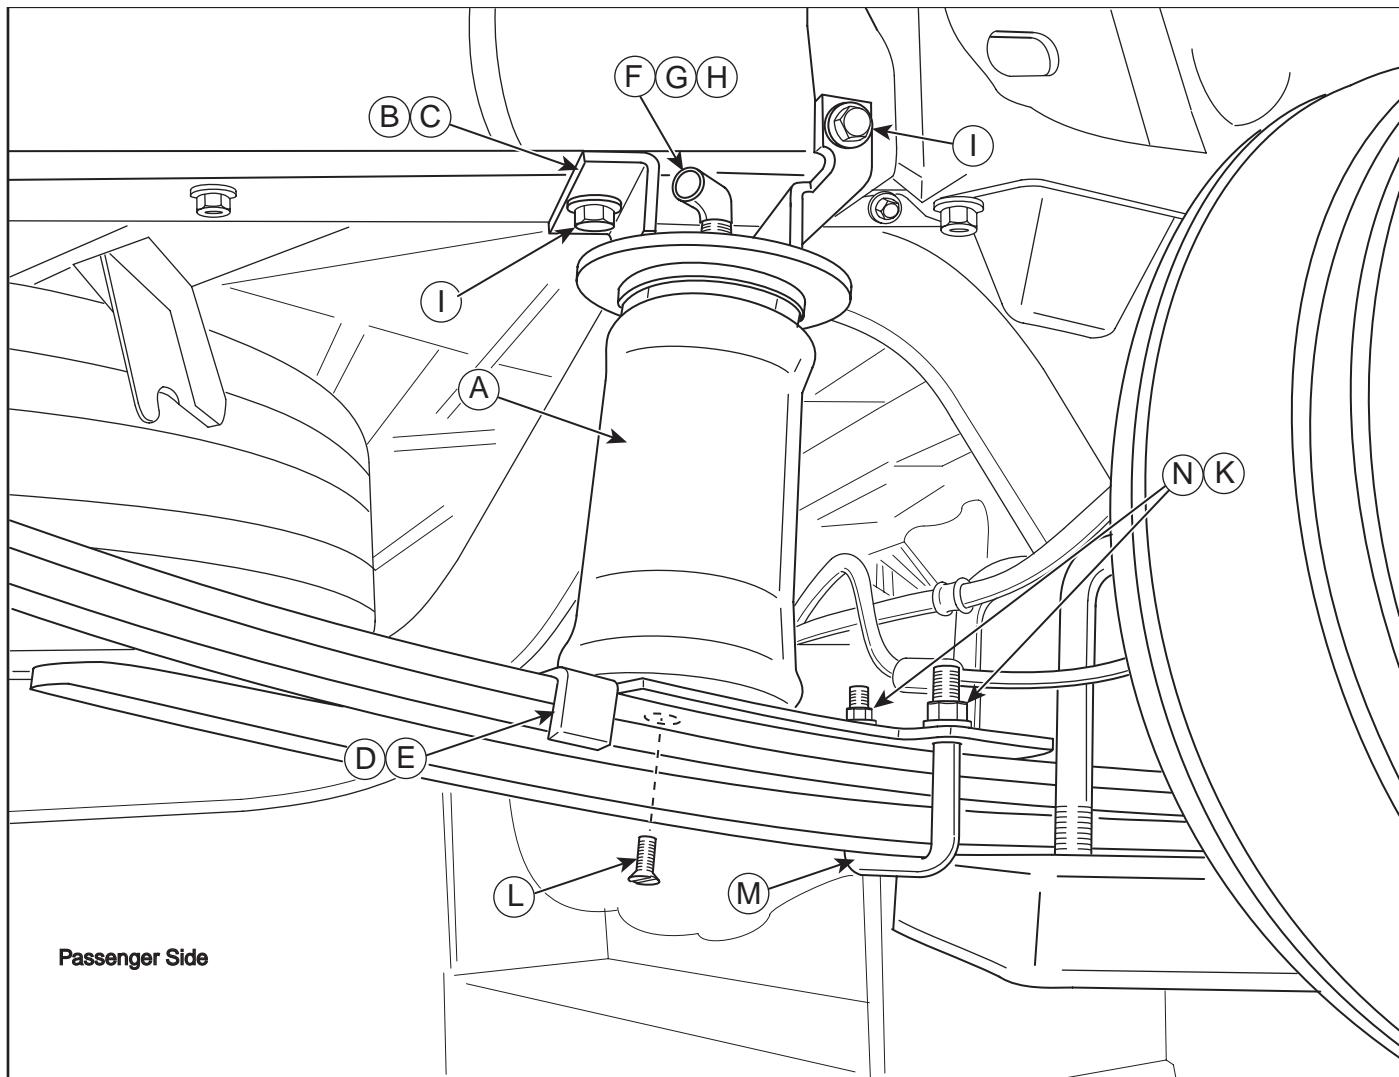

Figure 1
3. Set the brackets on the frame behind the axle as shown (Figure 1 & 2). Clamp the brackets to the frame with vise grips or welding clamps.
- 5-. Attach both brackets to the frame with the supplied (4) four $\frac{3}{8}$ "-16 x 1-1/2" bolts (I), large flat washers (J) and nyloc nuts (K) (Figure 1).